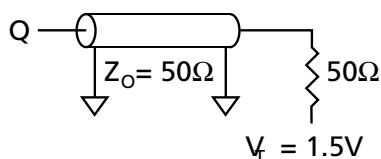
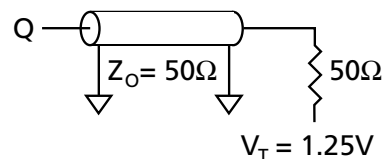

Figure 1
Figure 3
9. Test conditions as specified with output loading shown in Figure 1 for 3.3V I/O ($V_{DDQ} = +3.3\text{V} \pm 0.165\text{V}$) and Figure 3 for 2.5V I/O ($V_{DDQ} = +2.5\text{V} + 0.4\text{V}/-0.125\text{V}$).
Output load	See Figures 1 and 2
Output load	See Figures 3 and 4